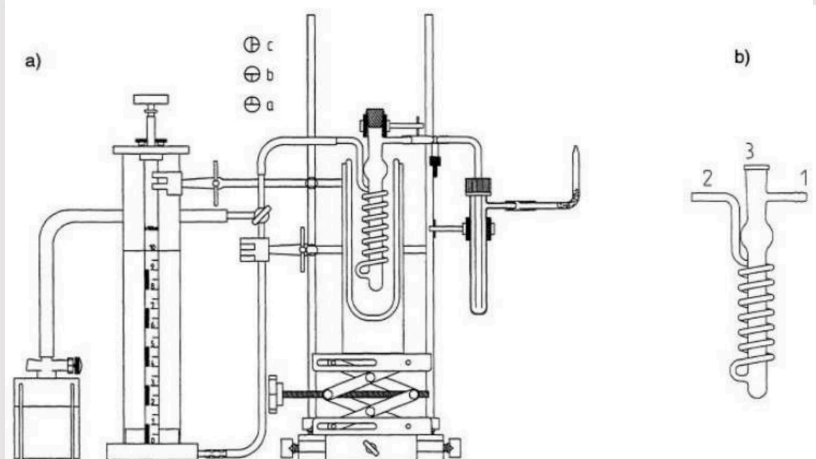

Figure 2
- Set the experiment up as shown in Figure 2. The Dewar vessel holds a calorimeter insert. Via connector 2 (see the additional illustration), this calorimeter insert is connected to a three-way stopcock to which a butane gas source and a gasometer are connected. Connector 1 holds a bubble counter with a right-angled glass tube.